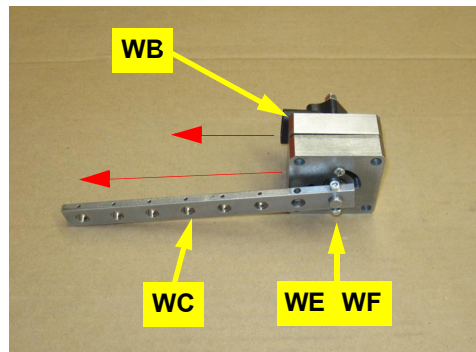

Figure 1c: Attached WAS arm
- c. Attach the WAS arm **WC** to the WAS using the provided hardware **WE** (nut) and **WF** (screw). Mount the arm in the same direction as the WAS wire connector **WB** (Figure 1c).